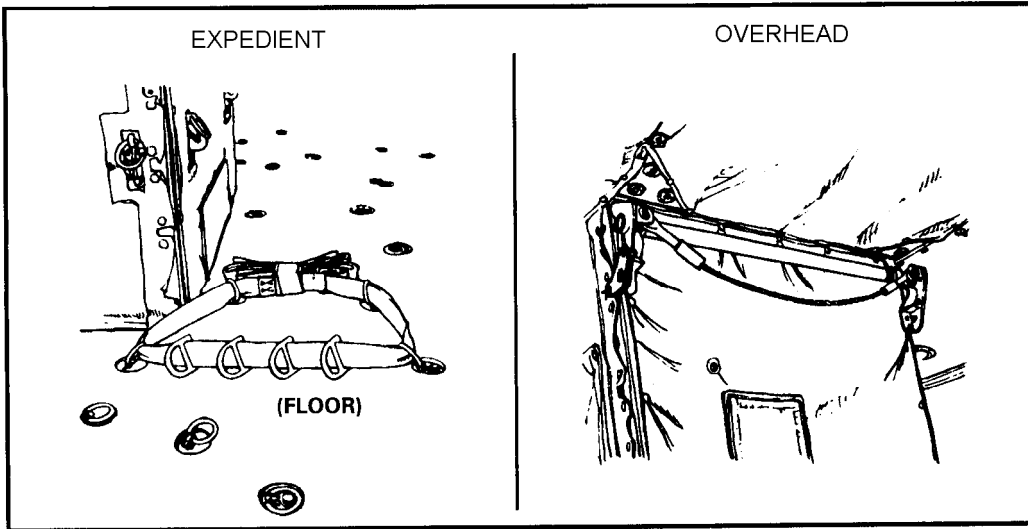

Figure 17-3. UH-1 anchor line system.
b. Anchor Line Systems. Two anchor line systems are available with the UH-1H aircraft for airdrop of personnel. They are the *standard overhead system* and the *expedient system* (Figure 17-3). The expedient system (A-7A anchor line cable assembly) consists of a cotton A-7A strap, four D-rings, and four connector snaps (TM 10-1670-240-20/TO 13C7-49-11 authorized the fabrication of the A-7A strap from Type X cotton webbing). Nylon A-7A straps may be used with cotton buffers on the D-rings and connector snaps.